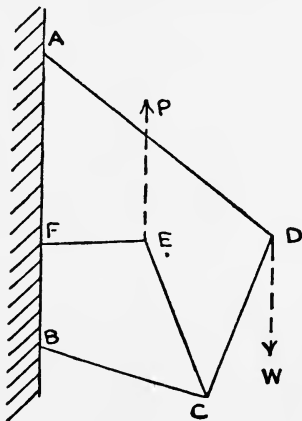

Fig. 2.
4. In the framework of rods shewn in Fig. 2, $ABCD$ and $CEFB$ are similar kite-shaped quadrilaterals, each quadrilateral having two pairs of equal sides. The framework is hinged to fixed points A , F and B . Use the principle of work to find the magnitude of the vertical force P which will balance W acting at D .